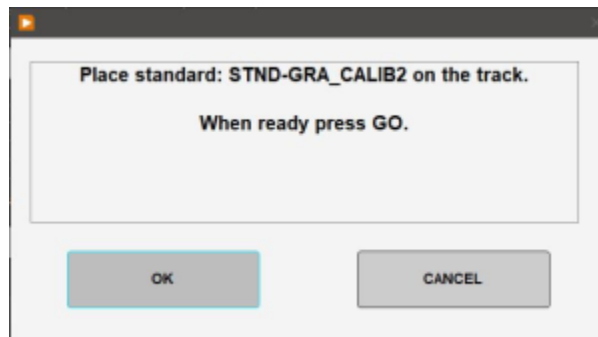

Figure 4. First GRA Calibration window.
2. A window will pop-up asking to place the standard on the track (*Figure 4*).